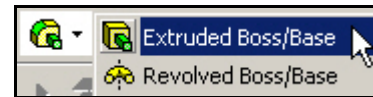

Figure 5 Beginning the extrusion
1. Begin with **Extruded Boss/Base** in the utility menu (Figure 5).